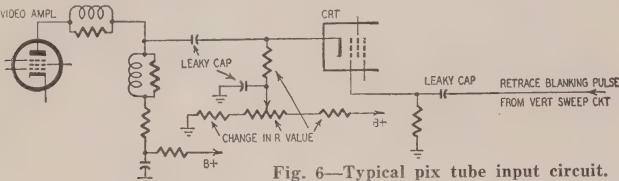

Fig. 6—Typical pix tube input circuit.
d. Picture tube: A number of C-R tube faults produce symptoms which give the effect of weak video. These include: defective tube (low emission causes unfocused beam and poor definition); defect in tube focusing circuit or magnet assembly; incorrect voltage applied to screen grid or focusing electrode resulting in poor contrast; weak ion trap; defect or value change in cathode or grid circuit causing either abnormally low or high brightness on the screen (Fig. 6).